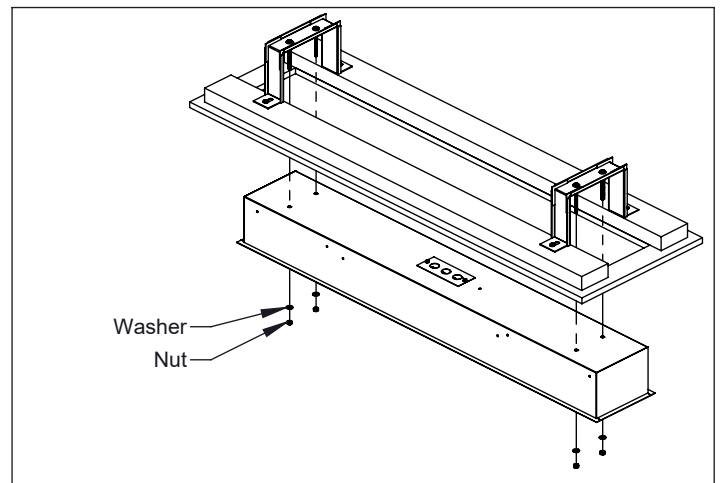

Figure 4
4. Remove (4) knockouts from housing before raising fixture into the ceiling and mount to yokes. Make necessary electrical connections. Re-attach wirecovers and housing frame to complete installation. (Fig. 4)